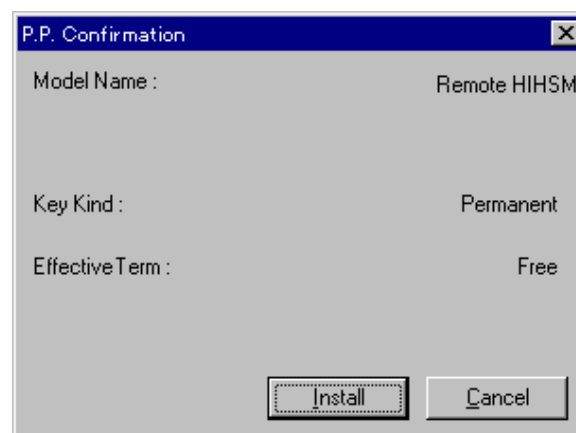

Figure 3.3 Confirming the HIHSM Key Code
- e) If the key code is accepted, the Program Product (P.P.) Confirmation panel opens (see Figure 3.3). Confirm the information displayed on this panel, and select **Install**. The Option Product panel now displays **[Install]** for the **Remote HIHSM** option.